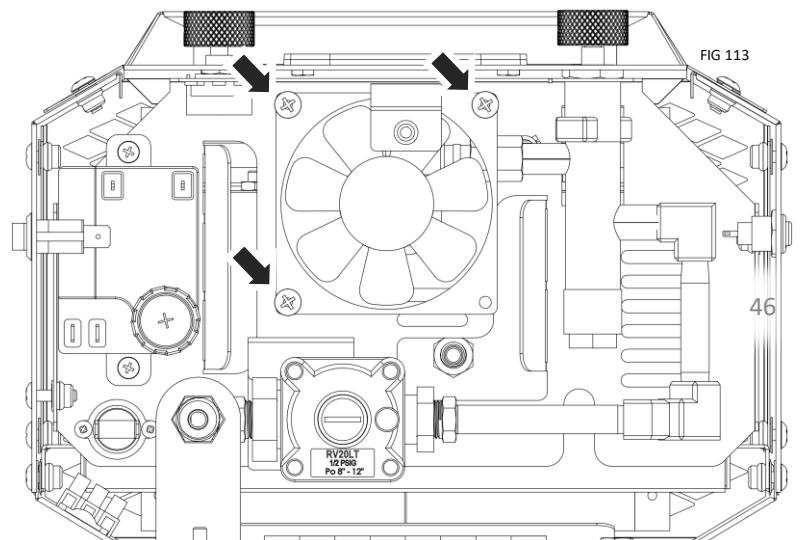

FIG 113
- The fan is held in by 3 long Philips screws (see arrows for placement) FIG 113